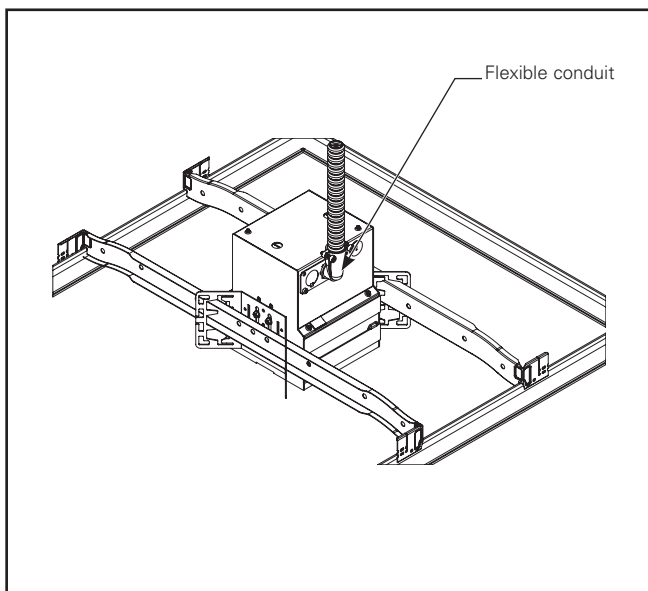

Figure 1.7.
- iv. Assemble access plate with #8-32 screws back to housing by tucking wires inside, Connect flexible conduit to access plate. (Figure 1.7)